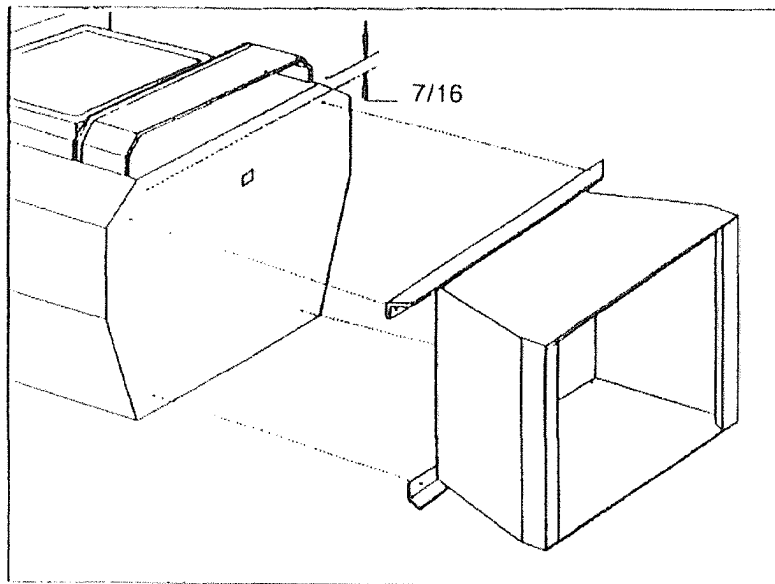

FIGURE 13
8. Open the corresponding freestanding kit and obtain the stand. Place the stand against the bottom of the heater (angle side to heater) at the marked line. Center the stand left and right and mark screw locations on bottom through outer holes of stand mounting angles. Set stand aside and drill four 7/32" holes in heater bottom. (See Figure 13)